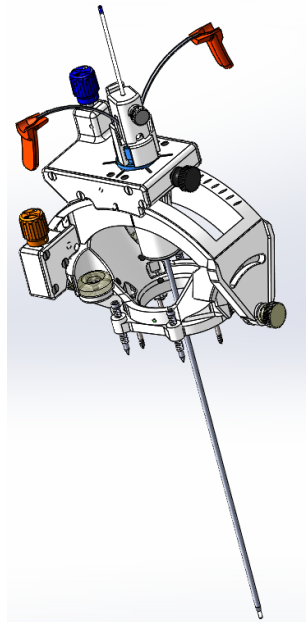

Figure 37: Stylet-Sheath-Dock-and-Lock Assembly Inserted into SMARTFrame Array
19. During insertion, view the advancement of the Stylet Assembly on the ClearPoint Array Software as appropriate. This insertion and visualization may be performed in 1/3 increments. **See Figure 37 for Stylet Assembly inserted into SMARTFrame Array.**